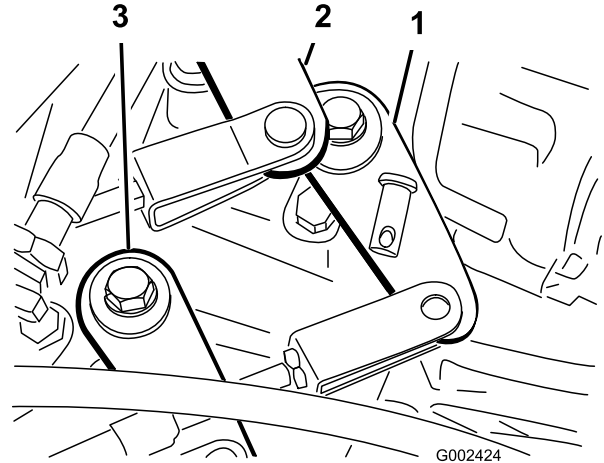

Figure 49
2. Remove the clevis pins securing the shift cables to the transaxle-shift arms (Figure 49).
1. Remove the clevis pin securing the High–Low cable to the transaxle (Figure 49).